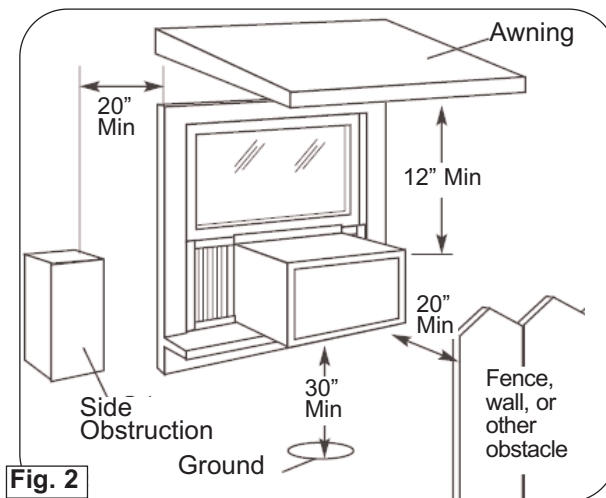

Fig. 2
D) Provide sufficient clearance around the cabinet to allow for ample air circulation through the unit (See Fig. 2). The rear of the unit should be outdoors and not in a garage nor inside a building. Keep unit as far away as possible from obstacles/obstructions and at least 30" above the floor or ground. Curtains and other objects within a room should be prevented from blocking the air flow.